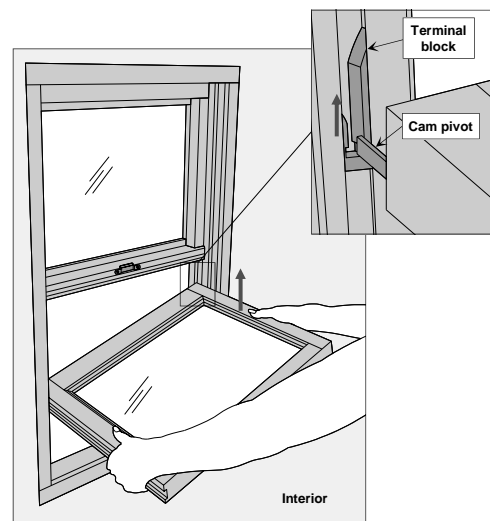

Fig. 4. Lift sash corner
8 Install upper sash into exterior channel of jamb liner as follows (figs. 4):
- Locate terminal blocks in jamb liners (see fig. 4)
If necessary, to achieve head jamb to sill measurement, remove head stop (a wood trim that runs horizontally across the head jamb; see fig. 4) to take measurements. For single-hung windows (top sash does not move), support upper sash and remove blocks or brackets that hold upper sash in place; this will permit upper sash to be lowered.